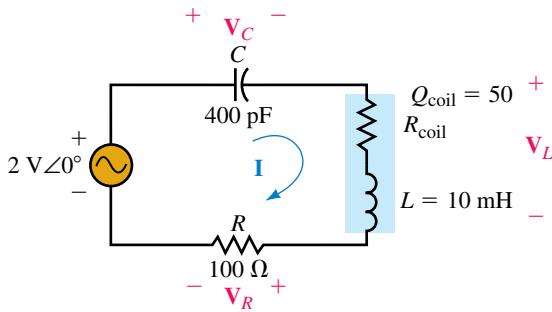

FIGURE 21-50
5. Refer to the circuit of Figure 21-50: